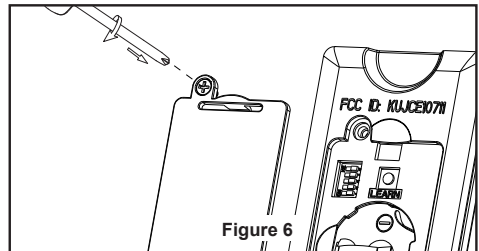

Figure 6
- ☐ 6. Secure the glass to the LED assembly by twisting in a clockwise direction. Twist the glass gradually **until it snaps onto the LED assembly**. Do not over-tighten. (Figure 6)
6. Replace battery cover on the remote control and secure with the previously removed screw. (Figure 6)